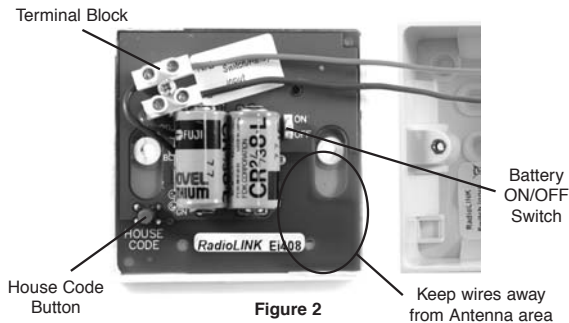

Figure 2
3. Switch on the built-in battery by sliding the yellow battery switch to the "on" position (see Figure 2).
4. Press and hold the House Code button (shown in Figure 2) until the red light on the front plate of the Ei408 illuminates solidly. As soon
However, there is no guarantee that interference will not occur in a particular installation. Interference from the Smoke Alarm system can be identified by turning the whole system off. To turn off the Ei408 remove the front plate and slide the yellow battery switch to the "off" position (see Figure 2). Refer to the instructions supplied with the other products used for information on these. The user is encouraged to eliminate the interference by one or more of the following measures:
If your Ei408 fails to work after you have read this leaflet, contact Customer Assistance at the nearest address given at the end of this leaflet. If it needs to be returned for repair or replacement put it in a padded box with the battery disconnected. Slide switch to "off" position (see Figure 2). Send it to "Customer Assistance and Information" at the nearest address given on the Ei408 or in this leaflet. State the nature of the fault, where the unit was purchased and the date of purchase.